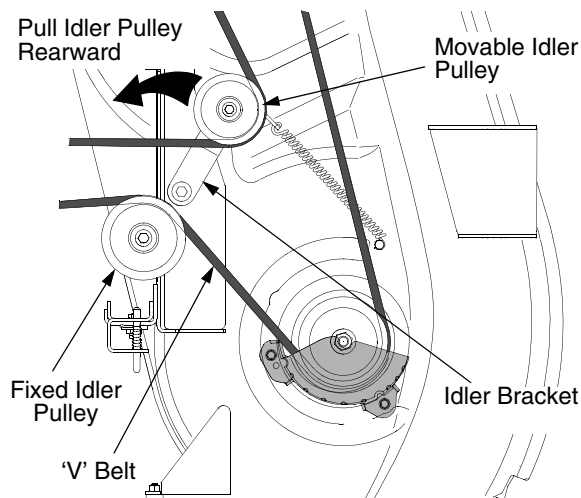

Figure 27
- Working from the middle of the tractor, pivot the idler bracket and movable idler pulley rearward away from the backside of the 'V' belt just far enough to lift the belt up and over the idler pulley. See Figure 27.
- Route the backside of the belt around the fixed idler pulley of the deck. Refer to Figure 27.
- Working from the middle of the tractor, pivot the idler bracket/movable pulley rearward against the spring tension and slide the backside of the belt onto the movable idler pulley. Refer to Figure 27.
- Make certain the belt is in the spindle pulleys of the deck, and that the backside of the belt is against both the fixed and movable idler pulleys. Refer to Figure 27.